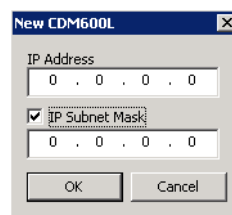

Figure 6-3 CDM-600L IP address dialog
2. Select the **Declare Modem** command from the drop-down menu to display the **New SNMP Modem** dialog shown in figure 6-3.